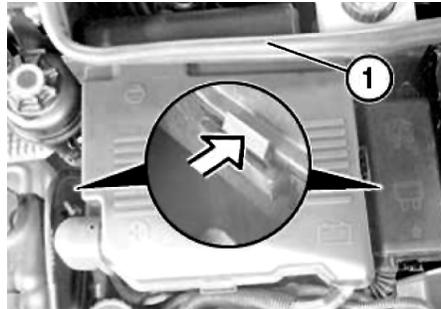

Fig. 1 Battery cover removal
2. Remove rubber seal (1), **Fig. 1**.
3. Press clips in direction of arrow, and remove battery cover, **Fig. 1**.
9. Install rubber seal (1), **Fig. 1**.